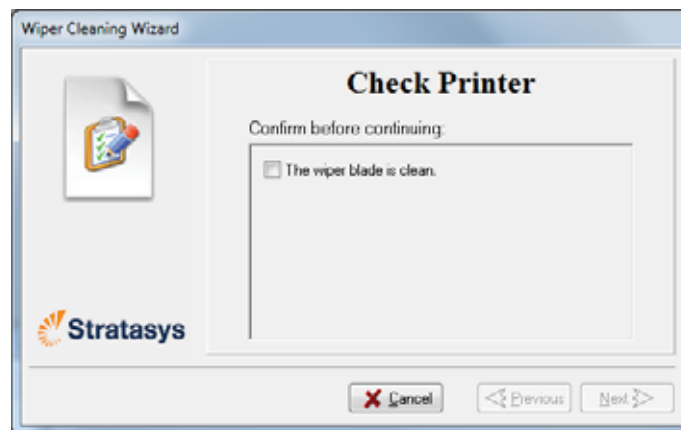

Figure 6-24: Wiper Cleaning wizard during steps 6–10
10. In the wizard screen (see figure 6-24), confirm that the wiper blade is clean, and click **Next**.